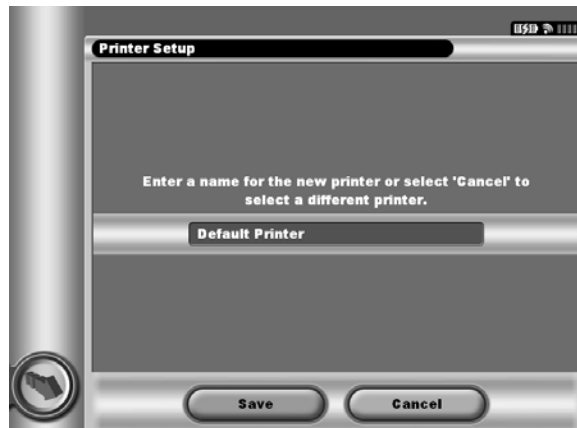

Figure 14: Use the keyboard to enter a name for the selected printer.
5. Select the desired printer name and enter the name using the keyboard (up to 15 characters) (Figure 14). A unique printer identifier should appear with the printer selection.